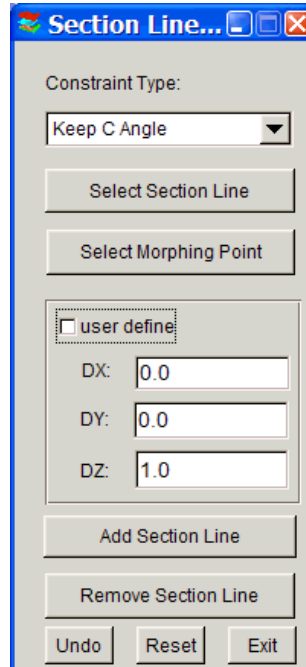

Figure 6.4.4 Section Line Morphing
- After selecting a surface, the program will display the U-V lines on the surface and a dialog window as shown in Figure 6.4.4.